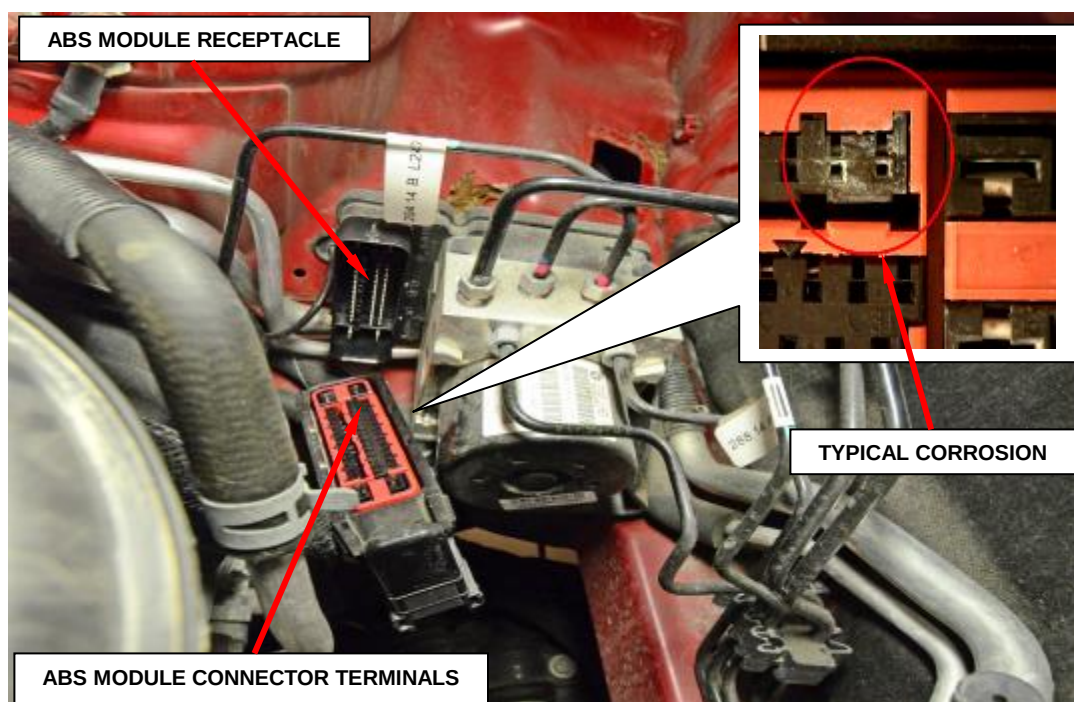

Figure 7 – ABS Module Connector
12. Inspect the ABS module electrical connector terminals and the ABS module receptacle for moisture or corrosion (Figure 7).